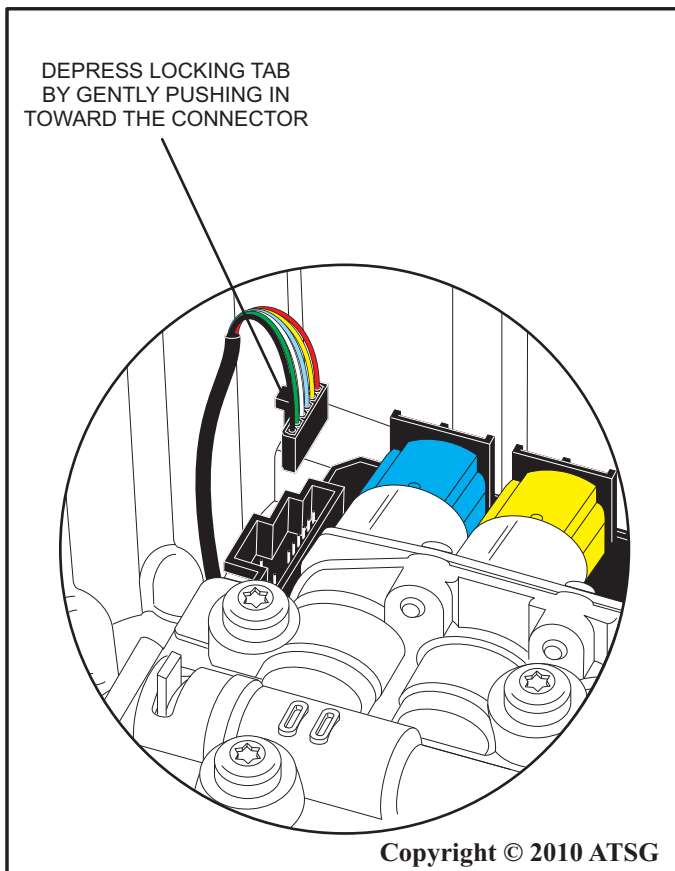

Figure 8
13. Depress the locking tab for the transmission range sensor by pressing toward the connector gently and carefully remove the connector by lifting straight up as shown in figure 8.